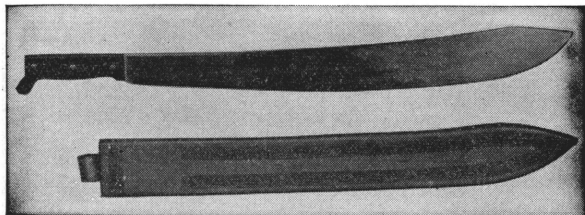

FIGURE 16.—Machete and sheath.
m. Machete (see fig. 16).—The machete (pronounced muh-SHAY-tay, muh-SHET-ee, muh-SHET) has a long, extremely sharp blade with a wooden handle. It is used to clear underbrush and trim small branches. It is swung with one hand. Keep it in its sheath when not in use.